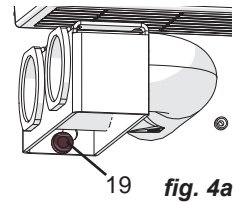

fig. 4a
- ⇒ Unscrew the knurled head screw (19, fig. 4a).
- ⇒ Fix the holder in place with the knurled head screw (19, fig. 4a).